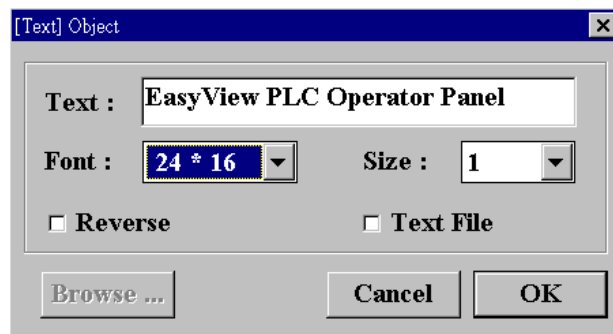

Fig.3-5: Text Object Dialog
- 1) Choose the **Text** option in the **Object** menu or click on the **Text** icon in the toolbox. Move the cursor to the upper-left corner of the location where the text string is to appear and click left, the text dialog as shown in Fig.3-5 is popped up.